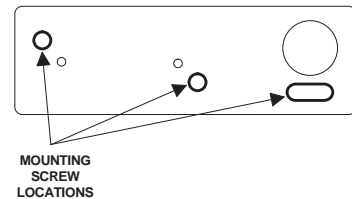

Figure 14. Mounting Screw Locations
- Secure the base to the frame with three screws in the locations shown in Figure 14. Don't overtighten the mounting screws; this can cause the base to bow, which may partially lift the detector off the mounting surface.